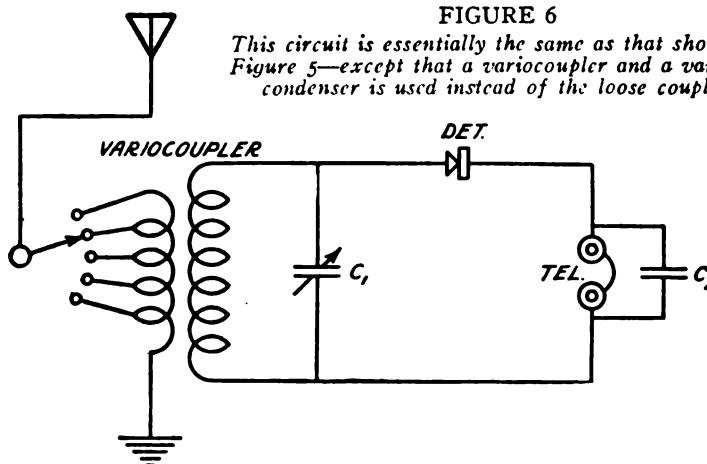

FIGURE 6
**ANSWER:** The diagram that you require is drawn for you in Figure 6. The bare copper wire will be suitable.
**ANSWER:** The variocoupler will give you the most satisfactory method of tuning. See the diagram shown in Figure 6 in answer to the question of P. A. Latta. It is not possible to answer questions regarding the distances over which a set should receive.
**ANSWER:** The hook-up is shown in Figure 6.